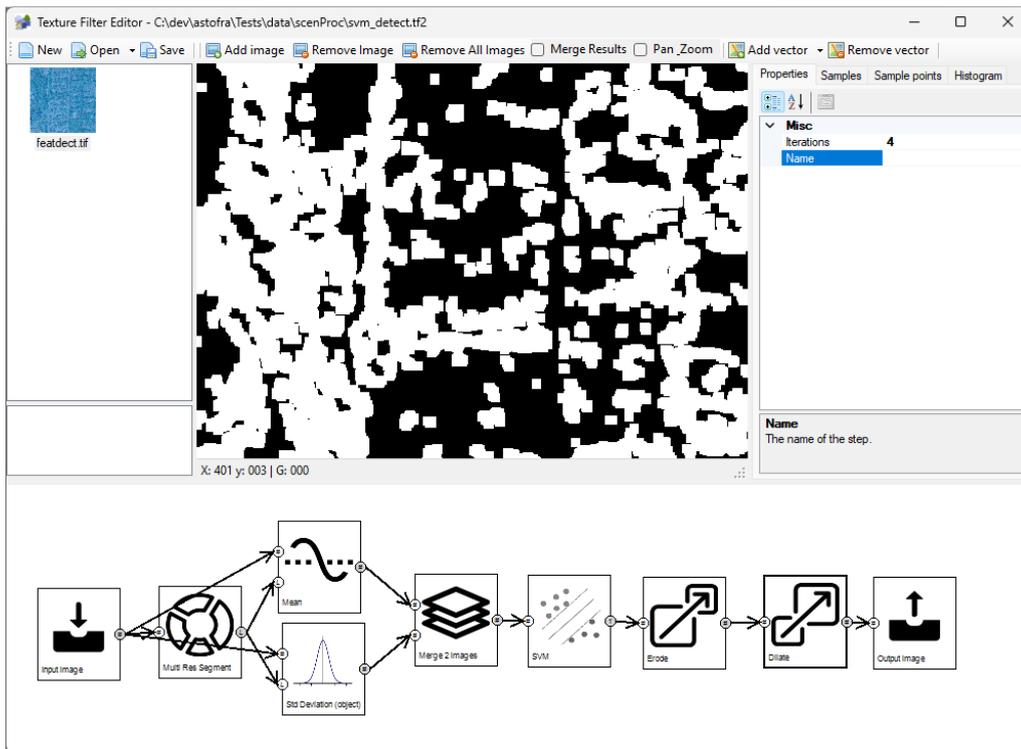

Figure 6.56: Dilating the result to grow the detection back to normal size
8. A 4 iteration dilate step is performed to grow the detected vegetation back to normal size, see Figure 6.56.